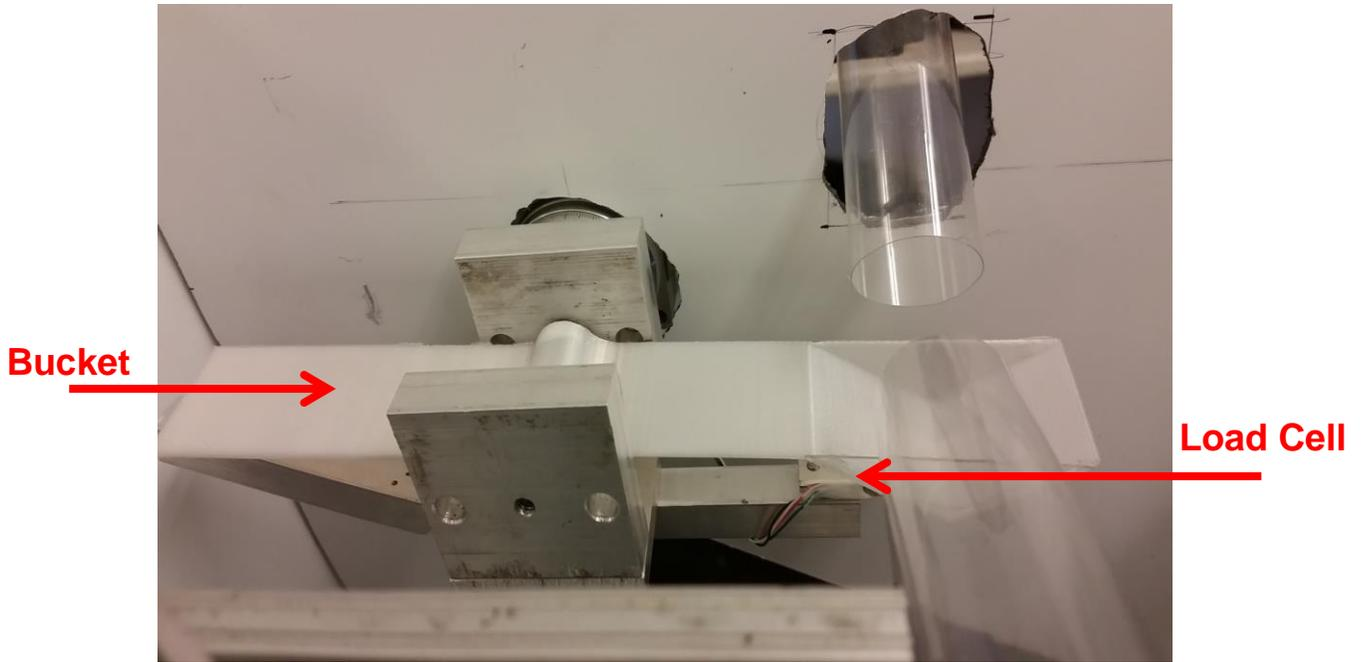
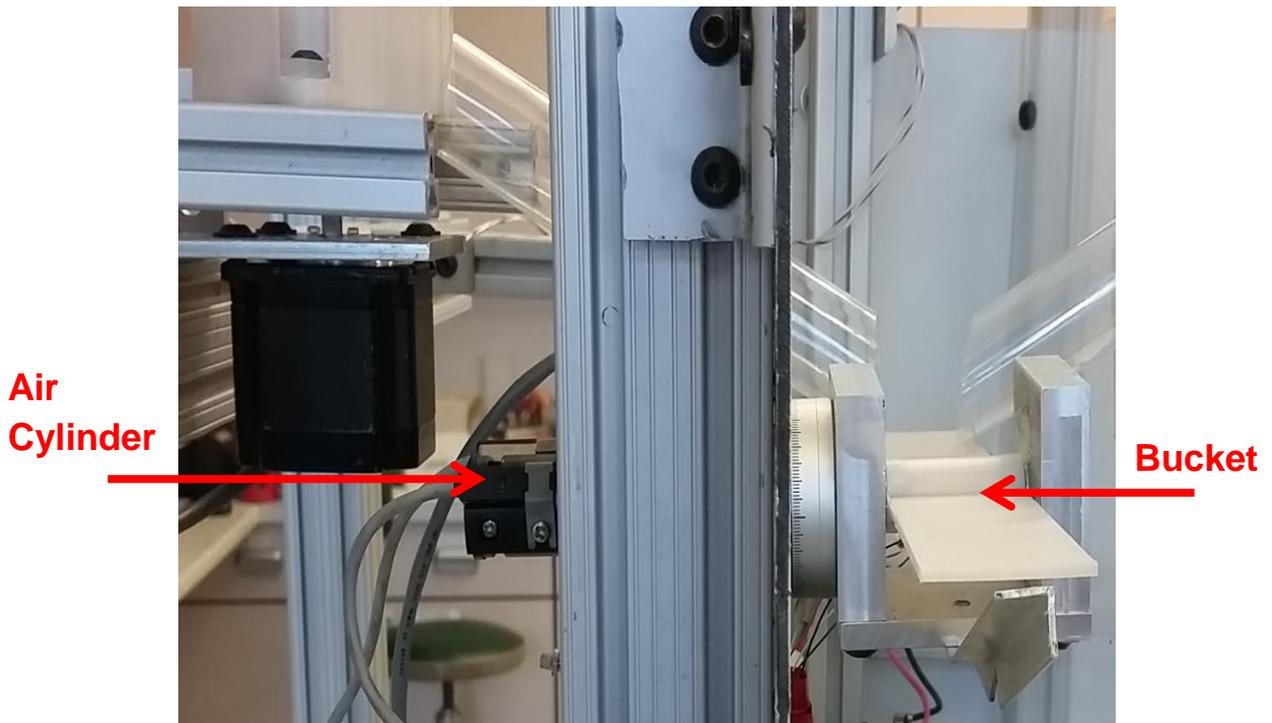

Figure 6. The Weigh Station.
Figure 7. The Weigh Station Layout.
- Figure 6. The Weigh Station 9
- Figure 7. The Weigh Station Layout 9
Figure 6 shows the 3D printed bucket and the attached load cell. Figure 7 shows the assembly with the air cylinder.